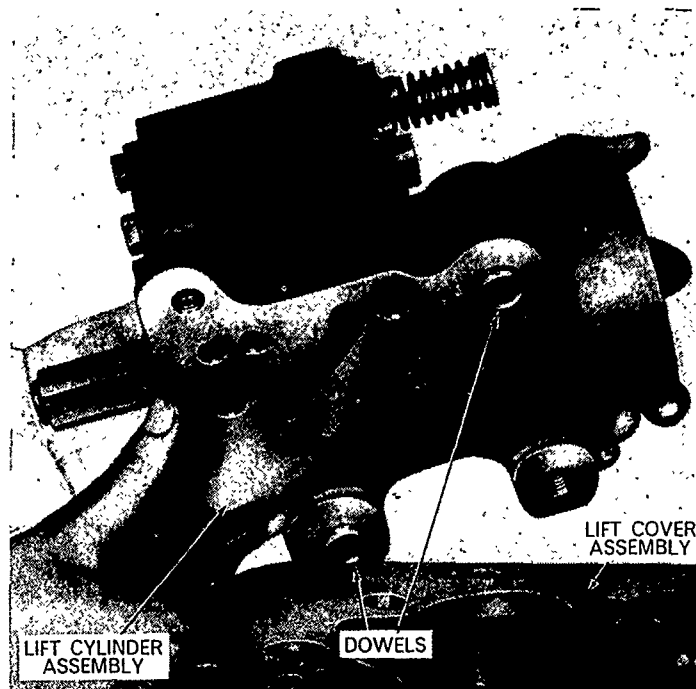

Figure 29
2. Position new 'O' rings in the counterbores of the oil passages, refit the cylinder to the cover, Figure 29, and fully tighten the retaining bolts to the correct torque. (See Specifications Section—Chapter 5.)